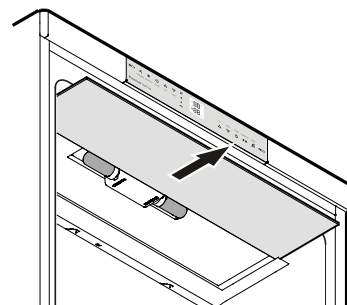

Figure 16
2. Remove the glass plate - **Fig. 16**.